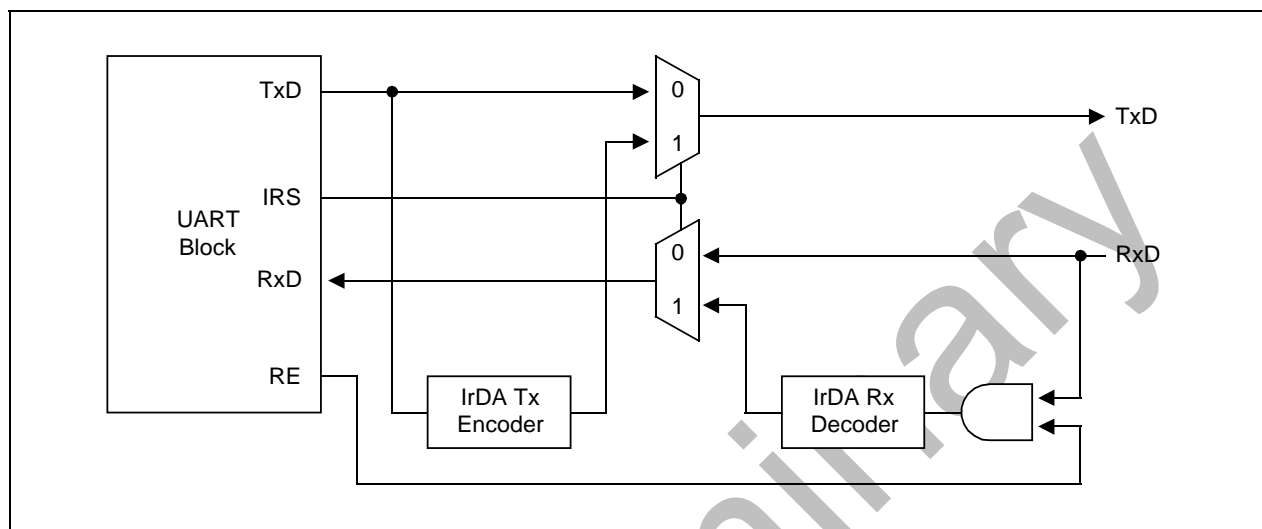

Figure 11-3. IrDA Function Block Diagram
The S3C24A0 UART block supports infrared (IR) transmission and reception, which can be selected by setting the infrared-mode bit in the UART line control register (ULCONn). The implementation of the mode is shown in Figure 11-3.